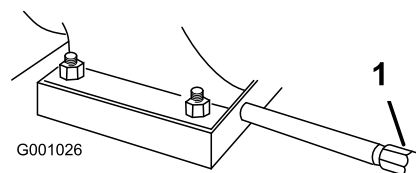

Figure 41
Oil viscosity	Refer to Figure 41 .
- Clean the area around the oil-drain cap (Figure 41).